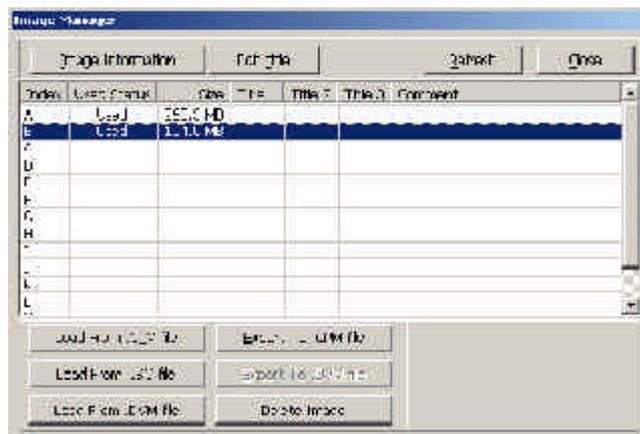

Figure 10
- (3) Edit the titles of image files on the hard drive of ARS-2037P
- a. In Figure 10 click “Edit title” to edit the title of the file. You can edit three titles at most, and decide whether to give a comment or not.